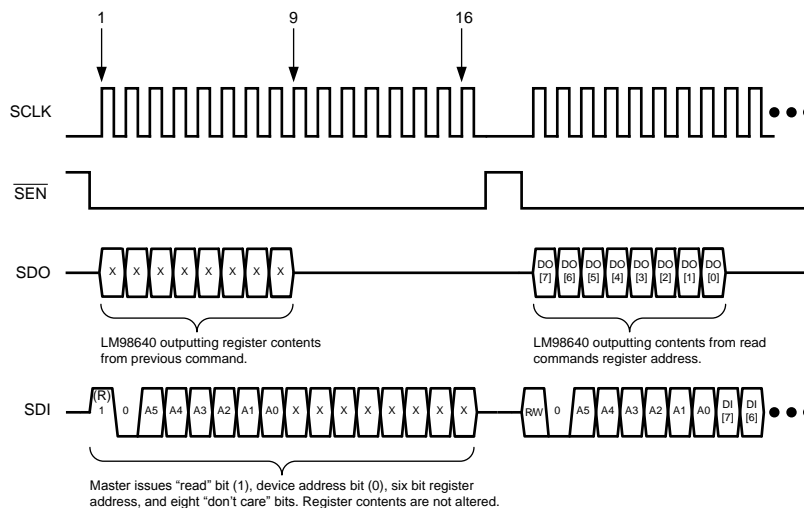
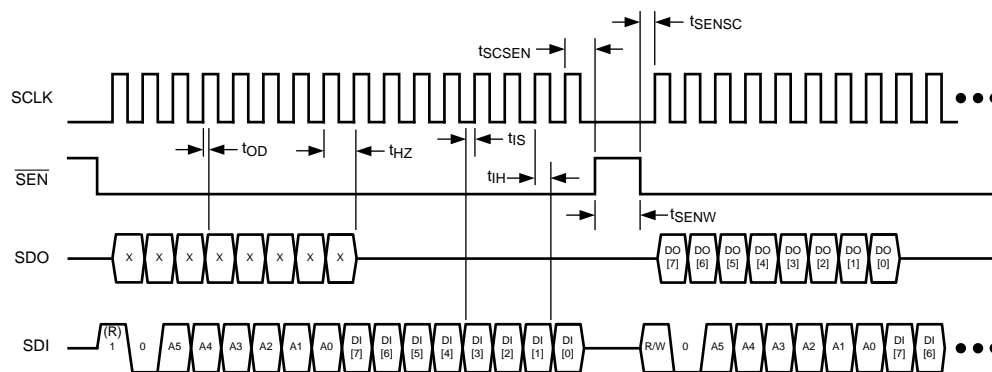

Figure 29. Four-Wire Serial Read
Figure 30. Serial Interface Specification Diagram
To read to the serial registers using the four wire interface, the timing diagram shown in Figure 29 must be met. Reading the registers takes two cycles. To start the first cycle,  $\overline{\text{SEN}}$  is toggled low. At the rising edge of the first clock, the master should assume control of the SDI pin and begin issuing the read command. The read command is built of a "read" bit (1), device address bit (0), six bit register address, and eight "don't care" bits. SDI is clocked into the LM98640 at the rising edge of SCLK.  $\overline{\text{SEN}}$  is toggled high for a delay of at least  $t_{\text{SENW}}$  (see Figure 30). The second cycle begins when  $\overline{\text{SEN}}$  is toggled low. The LM98640 assumes control of the SDO pin during the first eight clocks of the cycle. During this period, data is clocked out of the device at the rising edge of SCLK. The eight bit value clocked out is the contents of the previously addressed register. The next command can be sent on the SDI pin simultaneously during this second cycle. When  $\overline{\text{SEN}}$  toggles high, the register is not written to, but its contents are staged to be outputted at the beginning of the next command.